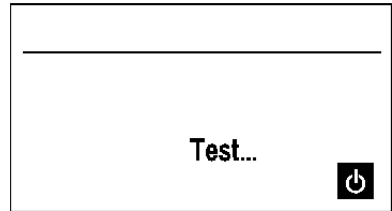

Figure 5.1.3: Test procedure running
- ▶ Briefly press the "Start / on" key (22), the test is started. During the running test procedure, the message 'Test...' (11) is displayed; please refer to Figure 5.1.3..